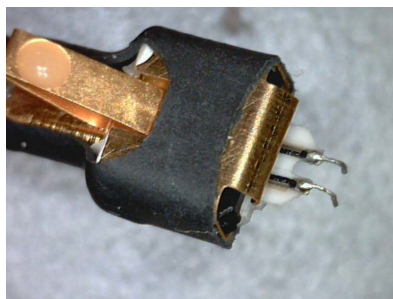

Figure 61 N5439A ZIF Probe Head
- 2 Prepare the N5439A ZIF probe head for connection to the PV fixture as shown in Figure 61.